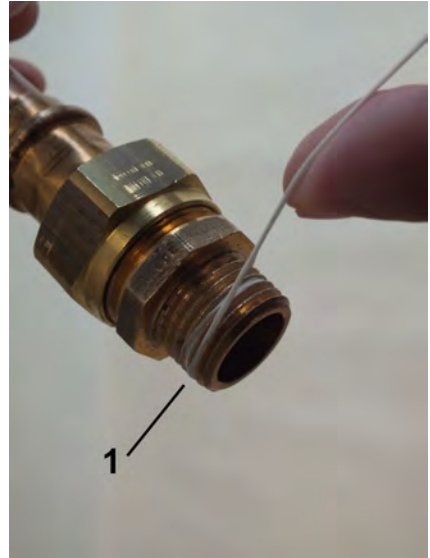

Fig. 9: Apply sealing strip
2. → Apply sealing strip (Fig. 9/1) to the napped thread in the thread direction. Observe the quantity recommended by the sealant manufacturer